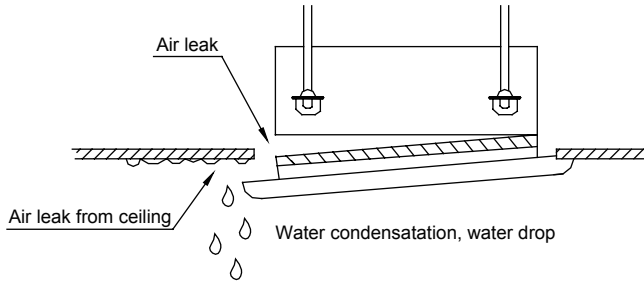

Fig. 14
- ① . Improper installation of the screws may cause condensate dripping as shown in Fig. 14.